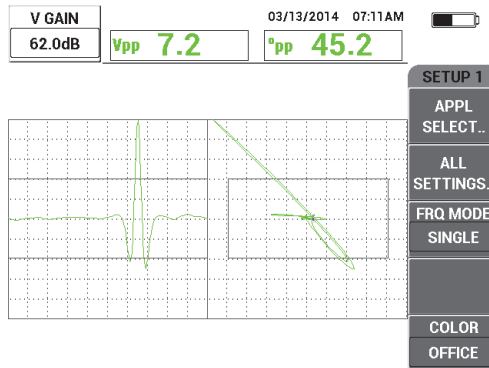

Figure 5-16 Adjusting the vertical gain
5. Press the GAIN key (**dB**) two more times to access the **V GAIN** parameter, and then adjust the vertical gain with the knob until the signal reaches the top of the screen, which is 100 % screen height (see Figure 5-16 on page 137).